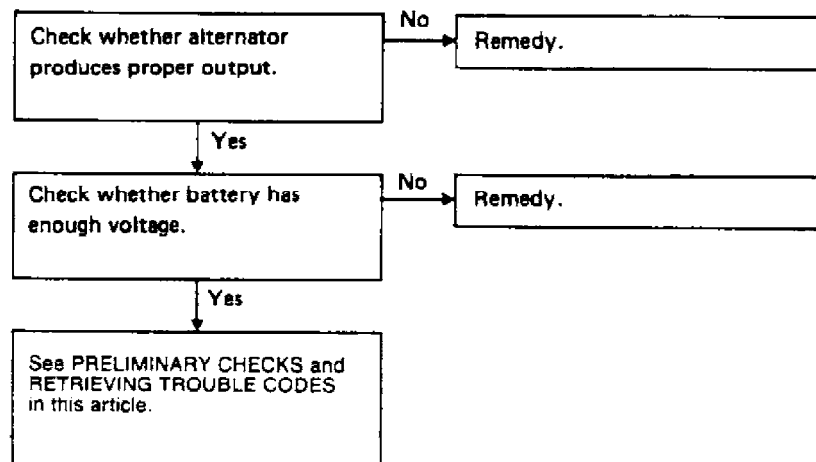

Fig. 12: No-Code - ABS Works, But ANTI-LOCK Light Activates Troubleshooting Chart. Courtesy of Nissan Motor Co., U.S.A.
- ABS Works But ANTI-LOCK Light Activates - See Fig. 12.